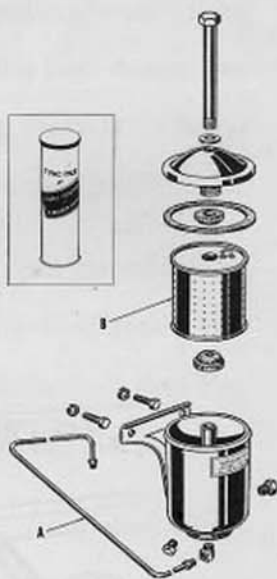

FIG. 13
3. Connect the filter and governor with the new line (2N-18666), "A," Fig. 13.
The crankcase oil filter cartridge or element, "B," Fig. 13, must be changed in accordance with the instructions. The filtered oil is returned to the crankcase through the governor. If the filtered element becomes clogged and inoperative, it will reduce or stop this